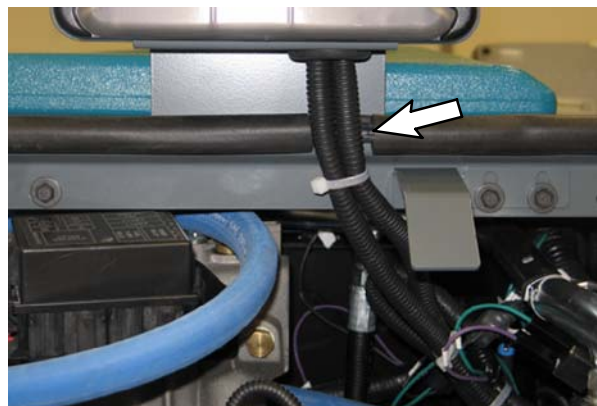

FIG. 2
4. Cut 44 mm (1.75 in) notch into seal to allow space for routing the backup harness (6). Refer to Fig. 2.